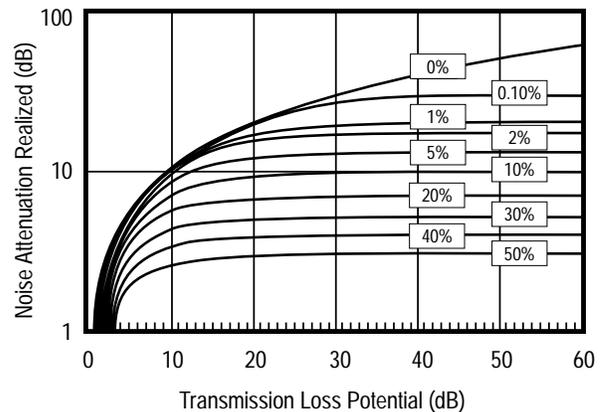

Figure 2: Performance of an Enclosure Based upon Percentage of Open Surface Area
Flexible barriers can be used in composites to reduce noise in engine compartments and equipment cabs, as in boats, heavy duty trucks or portable generators, and can also be fabricated into curtains for enclosing noisy machinery. The key to effective utilization of a barrier material lies in reducing the number and size of holes, gaps and other penetrations in the assembly to an absolute minimum, consistent with accessibility and ventilation. Generally, the percentage of open area relative to the total enclosure area should never exceed 10 percent. Under ideal conditions, a 10 dB(A) reduction may be achieved with this amount of open area. If the open area can be decreased to 1 percent, the potential noise reduction improves to 20 dB(A) (refer to *Figure 2*).